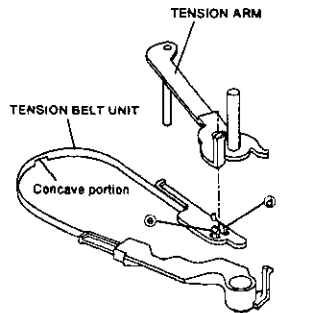

Fig. 2-8-2
- Unfasten the two catches (d) and (e) of the TENSION BELT UNIT shown in Fig. 2-8-2 to remove the TENSION ARM.
- Attach the TENSION ARM on the TENSION BELT UNIT shown in Fig. 2-8-2.